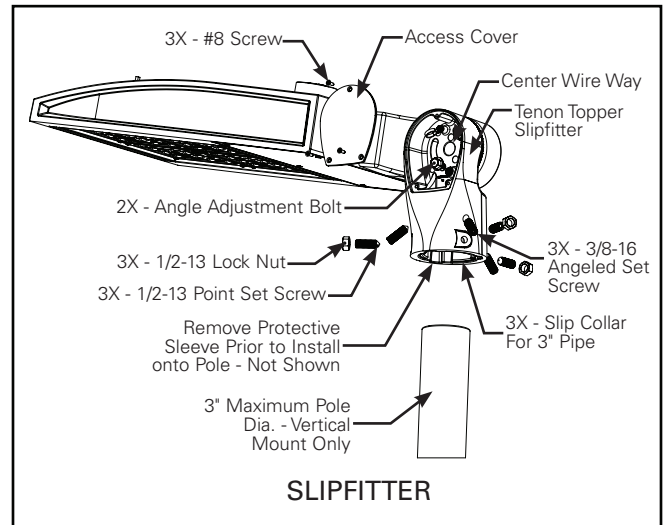

Figure 7.
Slipfitter, Adjustable (SP) (Fig. 7 and 8)